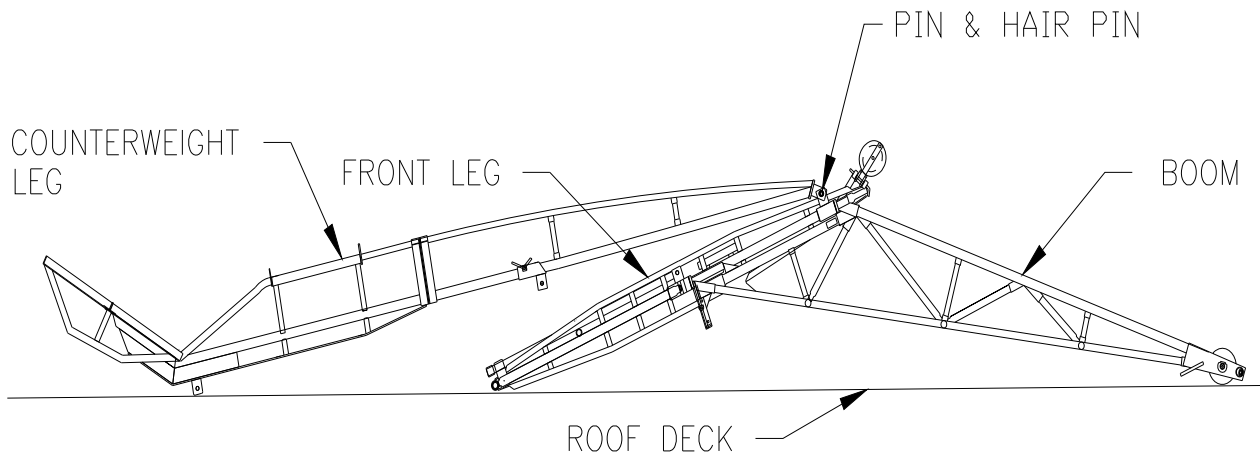

Figure 3-7.
2. Connect the Counterweight Leg to the Front Leg using the pin and hairpin as shown in Figure 3-7.